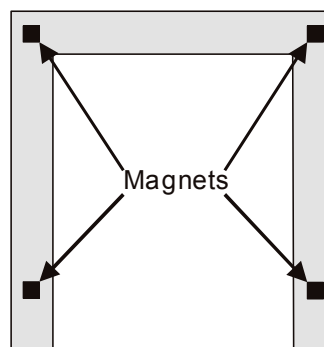

Figure 43
2. The trim is held on by four magnets. These will either be attached to the trim or supplied loose in a separate envelope. Space them as shown in **Figure 43**.